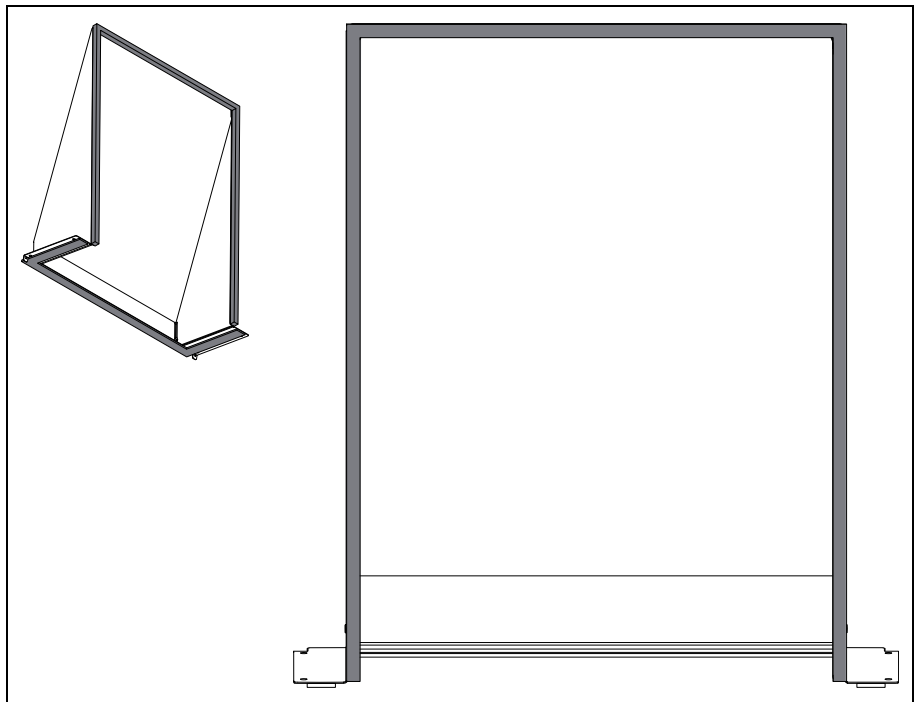

Fig. 19: Gasket on contact surface between the vertical part and the rear door
- Glue the gasket (W10 x H10 mm) onto the contact surface between the vertical air duct part and the rear door (fig. 19).